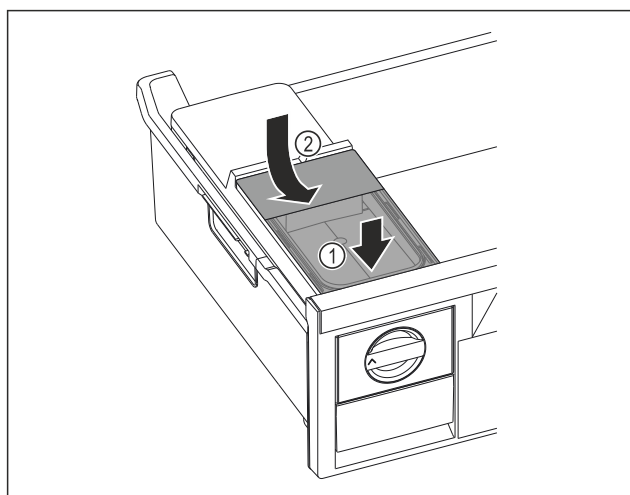

Fig. 139
- Position the water tank at the front. Fig. 139 (1)
- Lower the water tank at the rear. Fig. 139 (2)